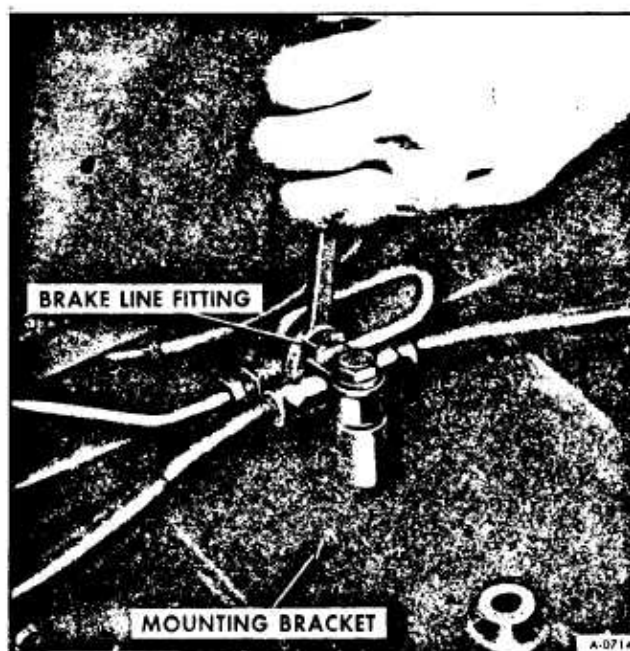

Figure 10-Disconnecting Brake Line
6. Referring to Figure 10, disconnect brake line at center mounting bracket and at each brake backing plate. Remove brake lines from control arms by unbolting all mounting points.